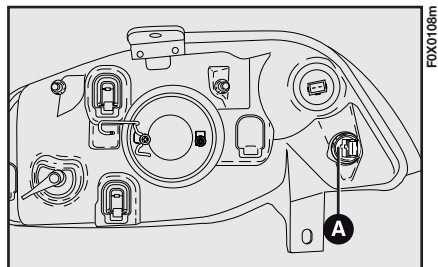

fig. 127
- remove the bulb holder assembly A-fig. 127, turning it anticlockwise;